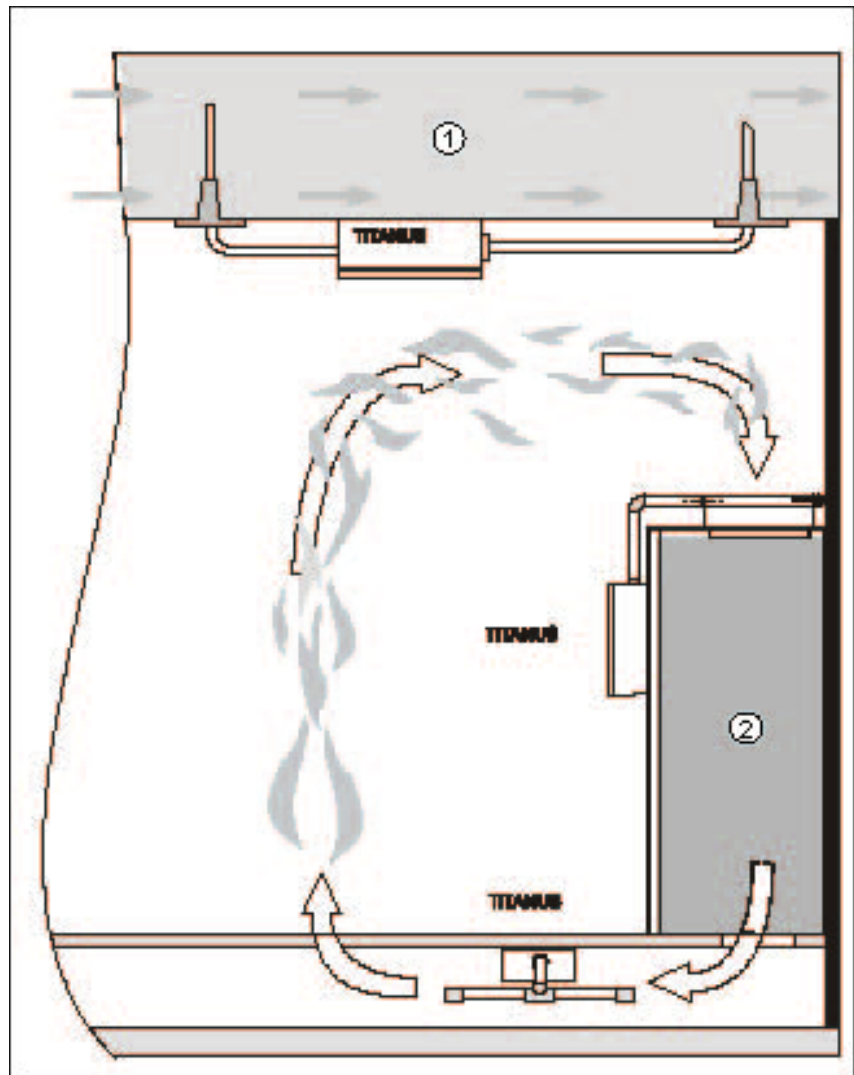

Fig. 1.2: Monitoring possibilities for an air-conditioning unit (1) or an air-conditioning duct (2) (depiction of principle)
- in air-conditioning units (see 1, Fig. 1.2), and
- in air-conditioning ducts in the bypass (see 2, Fig. 1.2).